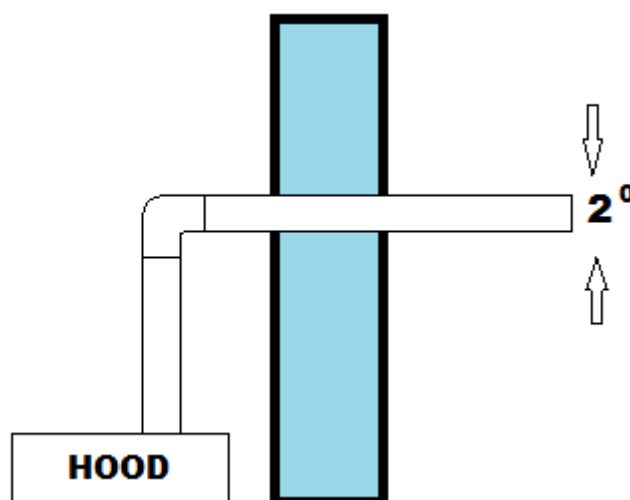

fig. 1
6. If the air duct is connected horizontally, a minimum falling gradient of 1 cm/m or an inclination of 2° is required. Otherwise condensate will get into the motor of the hood (look at figure 1).